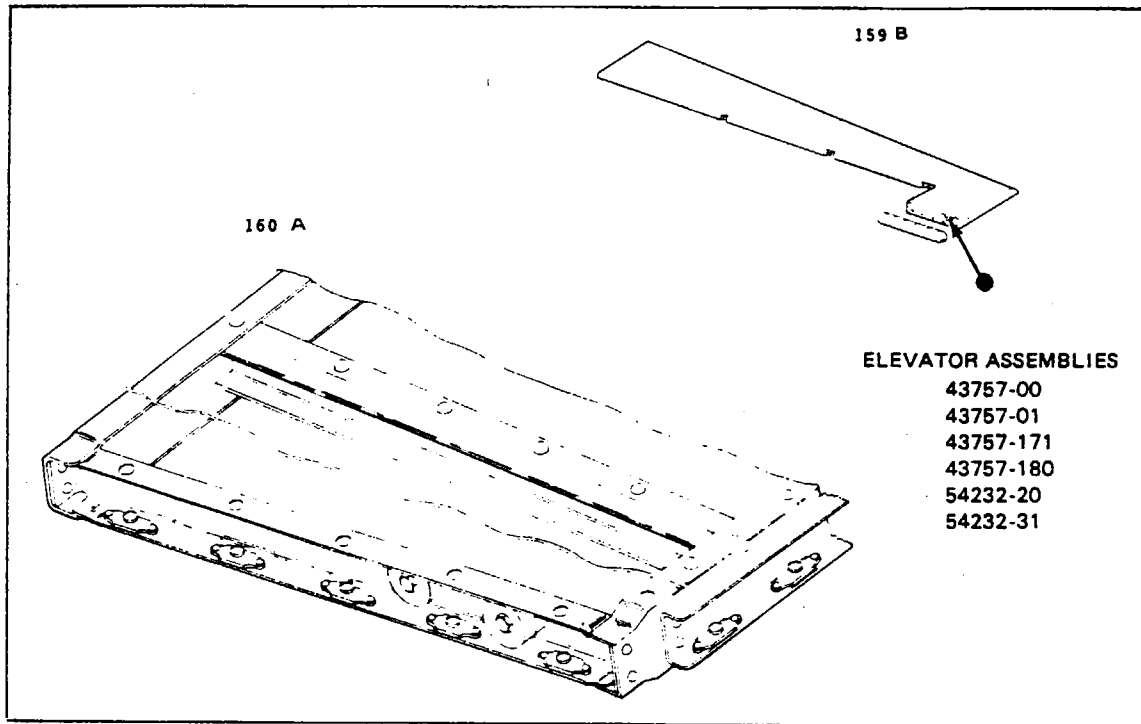

Figure 4-18. Elevator Trim Weight Installation (Without Wing Lockers)
- (b) A weight attachment point is provided on the balance leading edge channel approximately 2.88 inches inboard from the tip. (Refer to Figure 4-18.) Weights are installed, not to exceed two per anchor nut, with the proper length AN3 bolts. Should it be necessary to install an additional third and fourth weight (per elevator), a second attachment point is provided at approximately 5.25 inches inboard from the tip. Distribute the weights evenly between both elevators. (Should the second attachment anchor nut not be provided, it may be installed per instructions given in Paragraph 4-94.)